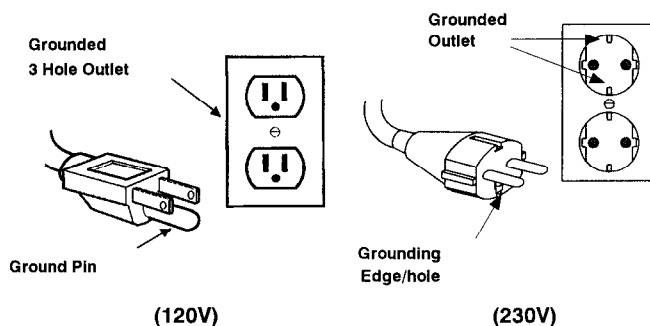

FIG. 3.
4. Plug power cord into a grounded power outlet. (Figure 3.)